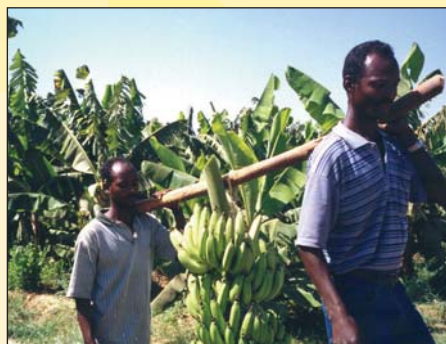

Figure 3. A bunch of banana hanging on a pole and carried by two men.
- Methods for transport to the packing house: a) cableway; b) on the man shoulder or back; c) with dry leaves on the back of a donkey; d) carrying a bunch of banana hanging on a pole (Figure 3).